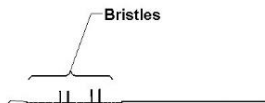

Figure 2 Missing bristles (Gap)
- Do not use damaged brushes.** Always inspect brush for damage before use. See Figures 2 -7. Damaged brush may not adequately clean the endoscope channel, which may cause patient infection.
- Some example of damages to look for are depicted on Figures 2 to 7 and may include but not limited to, bent or cracked catheter, missing bristles, brush or squeegee. This inspection is the responsibility of the user. Worn out bristles are ineffective in cleaning, and damaged brushes may damage the endoscope. **DO NOT USE THESE DEVICES, SAVE THEM AND CONTACT AUTHORIZED DISTRIBUTOR FOR A RETURN AUTHORIZATION.**